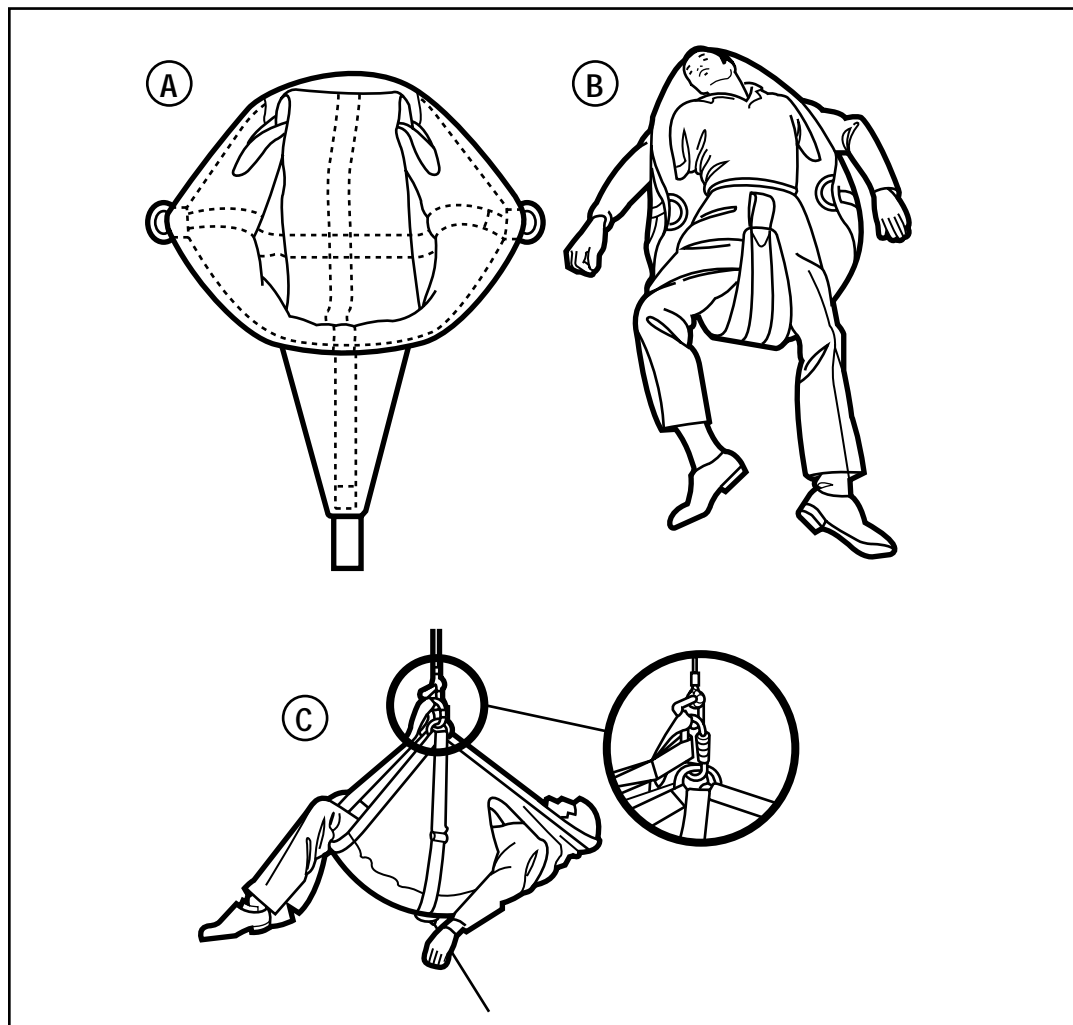

Figure 1: SM/RTC Rescue Cradle Operation
Refer to Figure 1 for the following:
- 3.1 Open cradle on the floor near the escape point as shown in Figure 1-A.
- 3.2 Place the injured person in the center of the cradle as shown in Figure 1-B.
- 3.3 Snap all three rings to the triangular D-ring on the escape belt with the carabiner provided as shown in Figure 1-C.